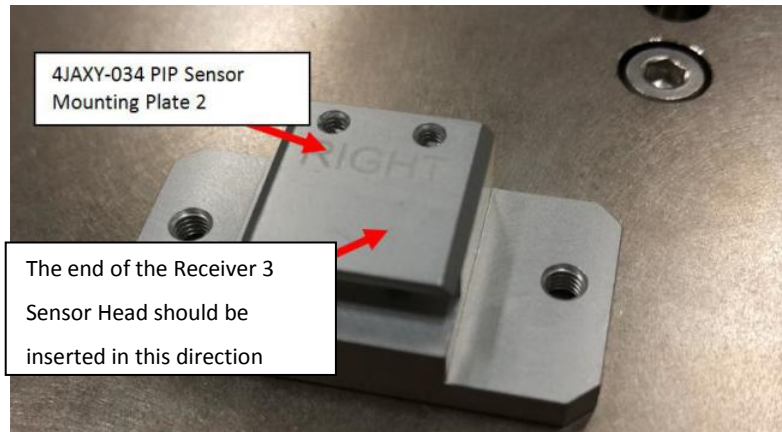

Figure 36 Sensor 3 Receiver Head
1. For Sensor 3 Receiver, insert the tip of sensor 3 Receiver into 4JAXY-034 PIP Sensor Mounting Plate as shown below in Figure 36